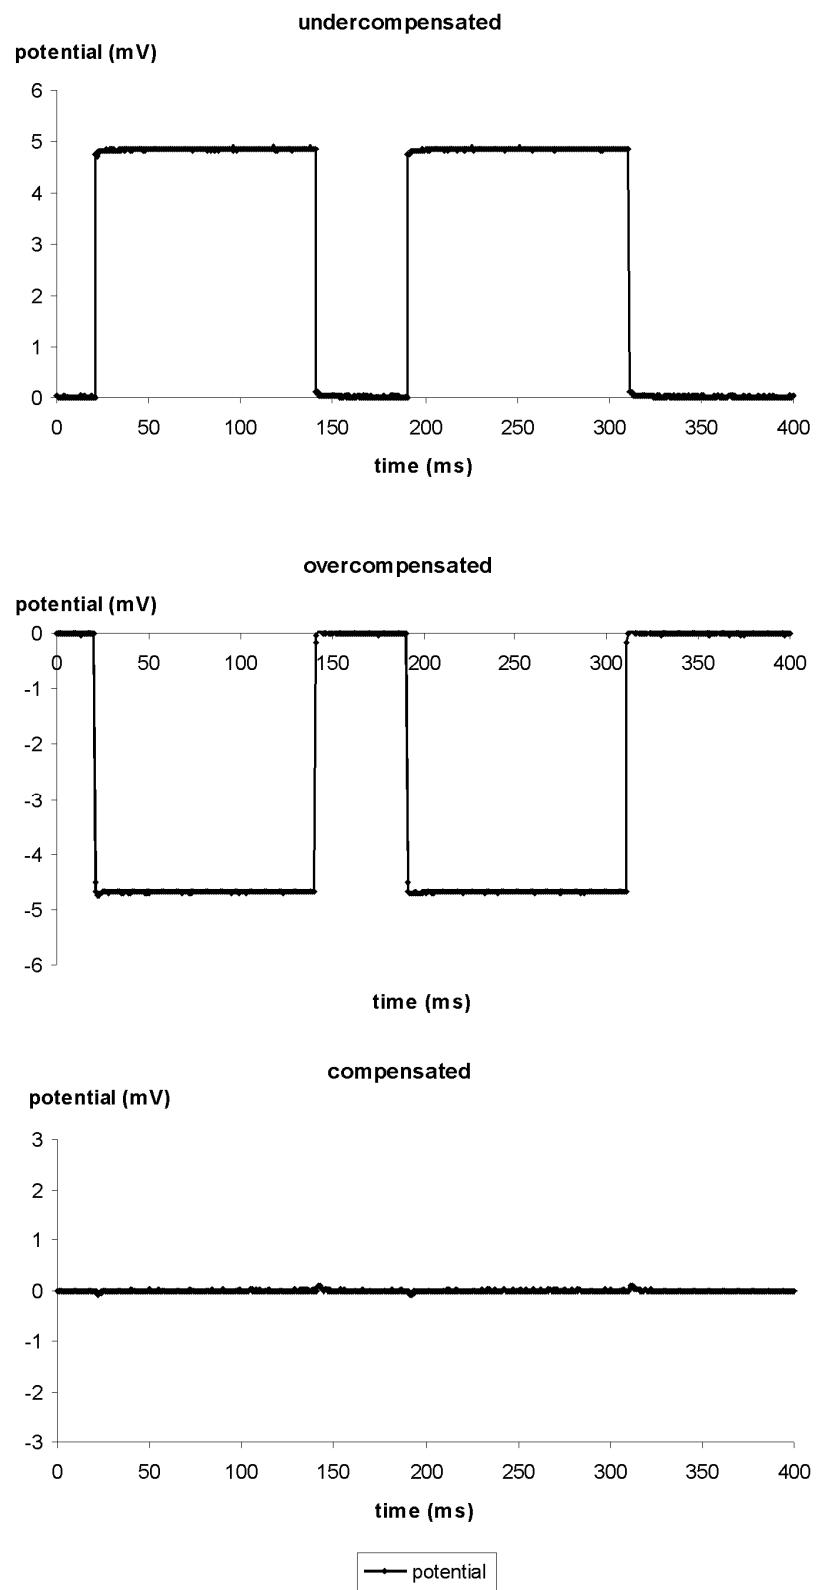

Figure 10: Tuning of the BRIDGE BALANCE using 100 M $\Omega$  resistor
With the cell model connected or the electrode in the bath the BRIDGE BALANCE control is turned on clockwise until there is no artifact on the POTENTIAL OUTPUT (see Figure 10).
- Watch the POTENTIAL OUTPUT at the oscilloscope and adjust the BRIDGE BALANCE as shown in Figure 10 using the BRIDGE BALANCE potentiometer (#21, Figure 1). After adjustment you should see a straight voltage trace without artifacts caused by the potential drop at  $R_{EL}$ .
Figure 10 illustrates the BRIDGE BALANCE procedure using a 100  $M\Omega$  resistor that represents the electrode. The current stimuli were generated using the gated stimulus unit gated by two TTL pulses. The amplitude was set to 0.5 nA. In the upper diagram the bridge is slightly undercompensated and in the diagram in the middle it is slightly overcompensated. The lower diagram shows a well balanced bridge (compensated).